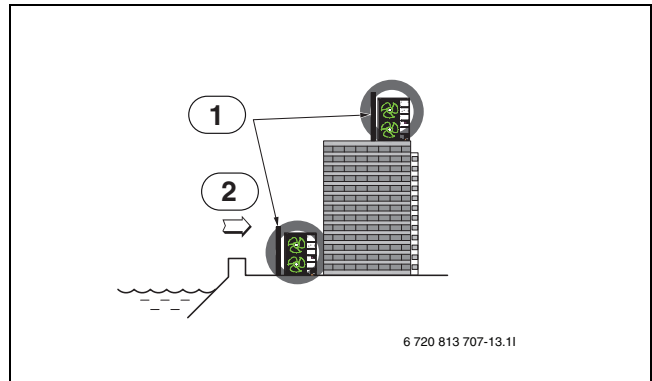

Fig. 14
- ▶ In case, set up a windbreak (→ fig. 14) not to be exposed to the sea wind if you install the outdoor unit on the seaside.